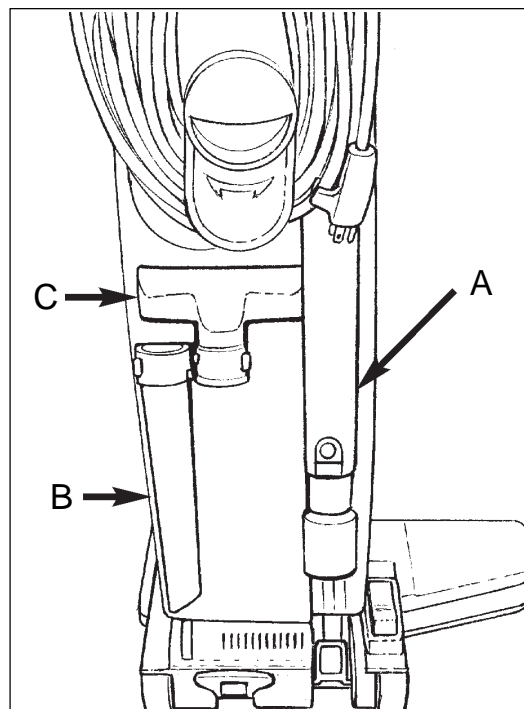

Figure 6
5. Install the wand assembly in the right rear canister housing (see figure 6, item A).
8. Snap the crevice (B) and upholstery (C) tools into the tool retainer on rear of canister housing (see figure 6).